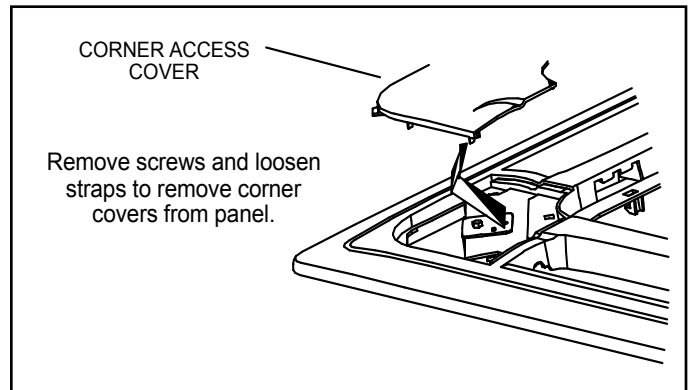

Figure 5. Remove Corner Covers
3. Remove access covers from each corner of the panel. See Figure 5.